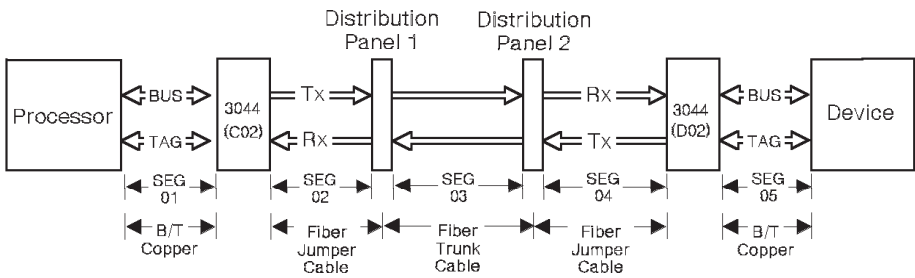

Figure 5-3. Example of a Complex Physical Link Connection
- Complex physical link connection (Figure 5-3 on page 5-3)
The following paragraphs list and explain the entries used in the completed *Cable Administration Work Sheet* example shown in Figure 5-4 on page 5-6. The work sheet uses the complex physical link connection shown in Figure 5-3 as a basis and includes typical information available for that link.
When comparing Figure 5-3 to the completed work sheet, notice where the information for one link segment ends and the other begins. For example, the column under 3090-12345 ends at the **To Label** entry of 3044-12345, which is the end of link segment 01. Link segment 02 then begins at the top of the next column (3044-98765) and ends at Distribution Panel 1 (labeled DP01C01 DP01C02). Continue down this column and up from the bottom of the next column to determine the trunk information (link segment 03). In the same manner, continue up the same column and down the next column for link segment 04 and 05 information.